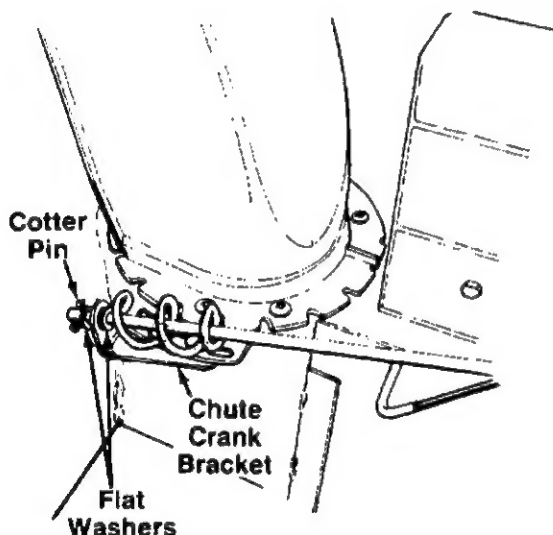

FIGURE 5.
6. Place one $\frac{3}{8}$ " flat washer on the end of the chute crank assembly. Insert the end of the crank into the plastic bushing in the chute crank bracket. See figure 5.